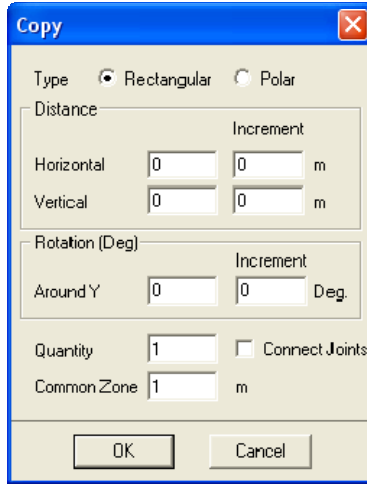

Figure 6-6 Copy dialog box
- In the Graphics area, using the left-mouse button, click on a base joint. The base joint must be a selected joint. The dialog box of Figure 6-6 appears.